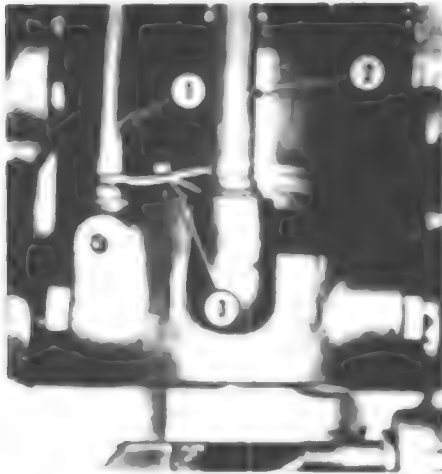

Fig. 115 - View showing charge pressure and return tubes attached to center section.
Unbolt retainer (3-Fig. 115) and remove charge tube (2) and center section exhaust tube (1). It may be necessary to tap the tubes forward slightly using a screwdriver and rubber mallet. Rotate tubes to aid in removal. Unbolt and remove the hydrostatic filter assembly (Fig. 116). Then, unbolt the suction pipe (4), push the pipe into the filter compartment and separate suction elbow (2) from the pipe. Remove the elbow first, then the suction pipe.